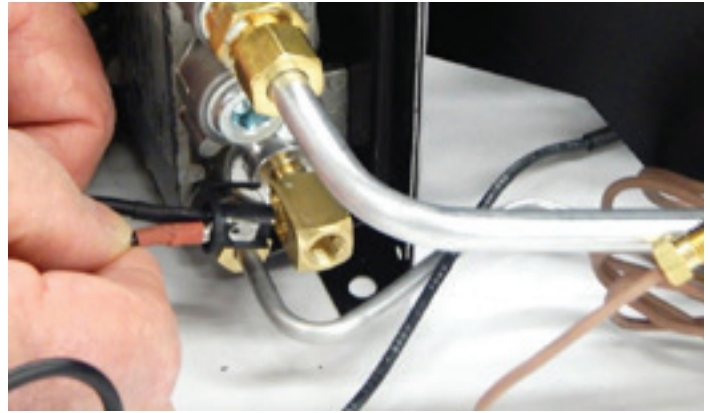

Figure 8
9. Remove plastic connector from interrupter. **See Figure 8.**